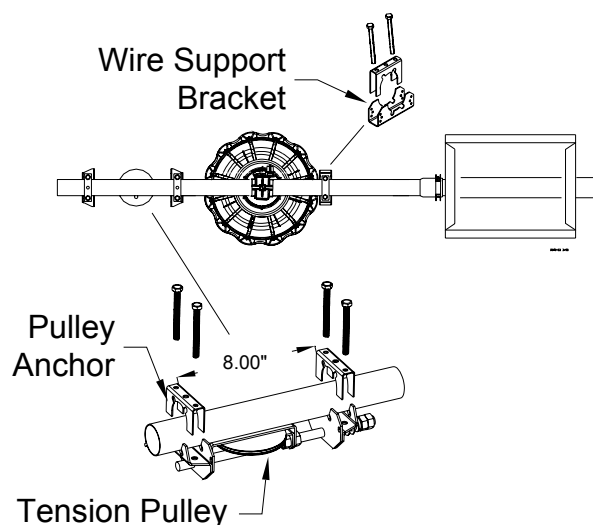

Figure 48. Tension Pulley
- Install a Tension Pulley beginning at the hopper end using two 1/4-20 x 3" hex bolts, as shown in **Figure 48**.
- Install a Pulley Anchor approximately 8" from the Tension Pulley using two 1/4-20 x 3" hex bolts as shown in **Figure 48**.
- At the hopper end the last pan is set up in a push configuration as shown in **Figure 48**. This configuration will use a wire support bracket installed as shown with two 1/4-20 x 3" hex bolts.